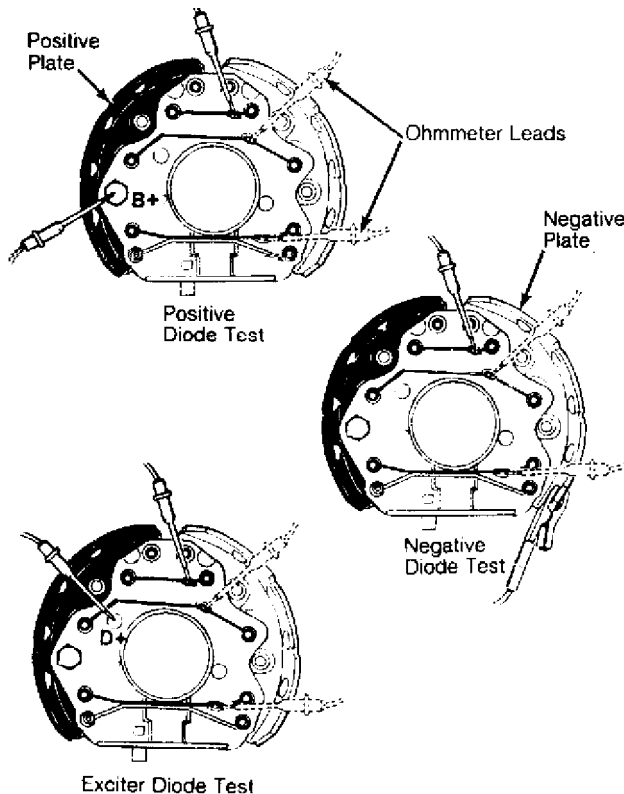

Fig. 3: Bosch Diode Assembly Test
2) Connect ohmmeter leads across negative plate and 3 stator terminals one at a time. See Fig. 3. Reverse leads. Ohmmeter should indicate continuity in one direction only.